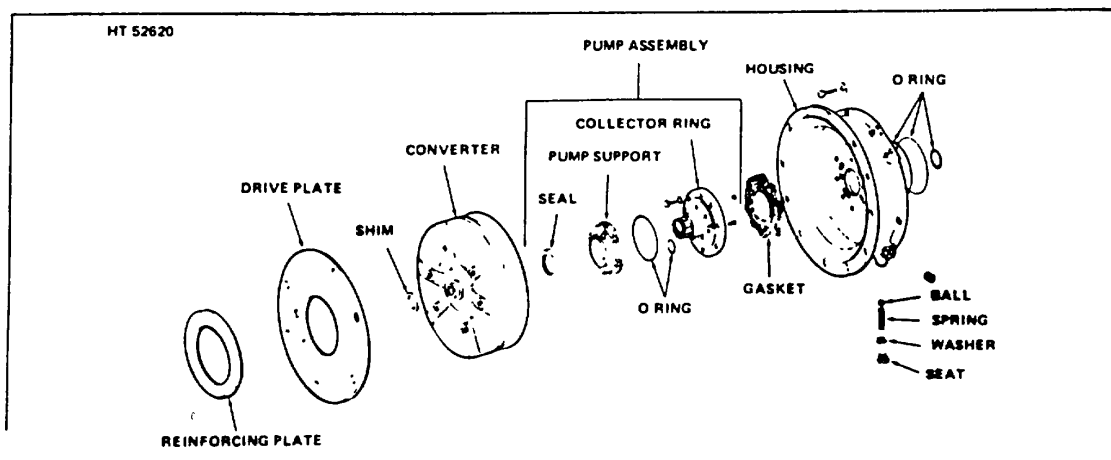

Figure 12. Torque Converter and Pump Assembly
3. Remove the seal rings and oil seal. (See Figure 12.)
3. Install the pump on the pump collector ring, making sure the holes are properly aligned. (See Figure 12.)